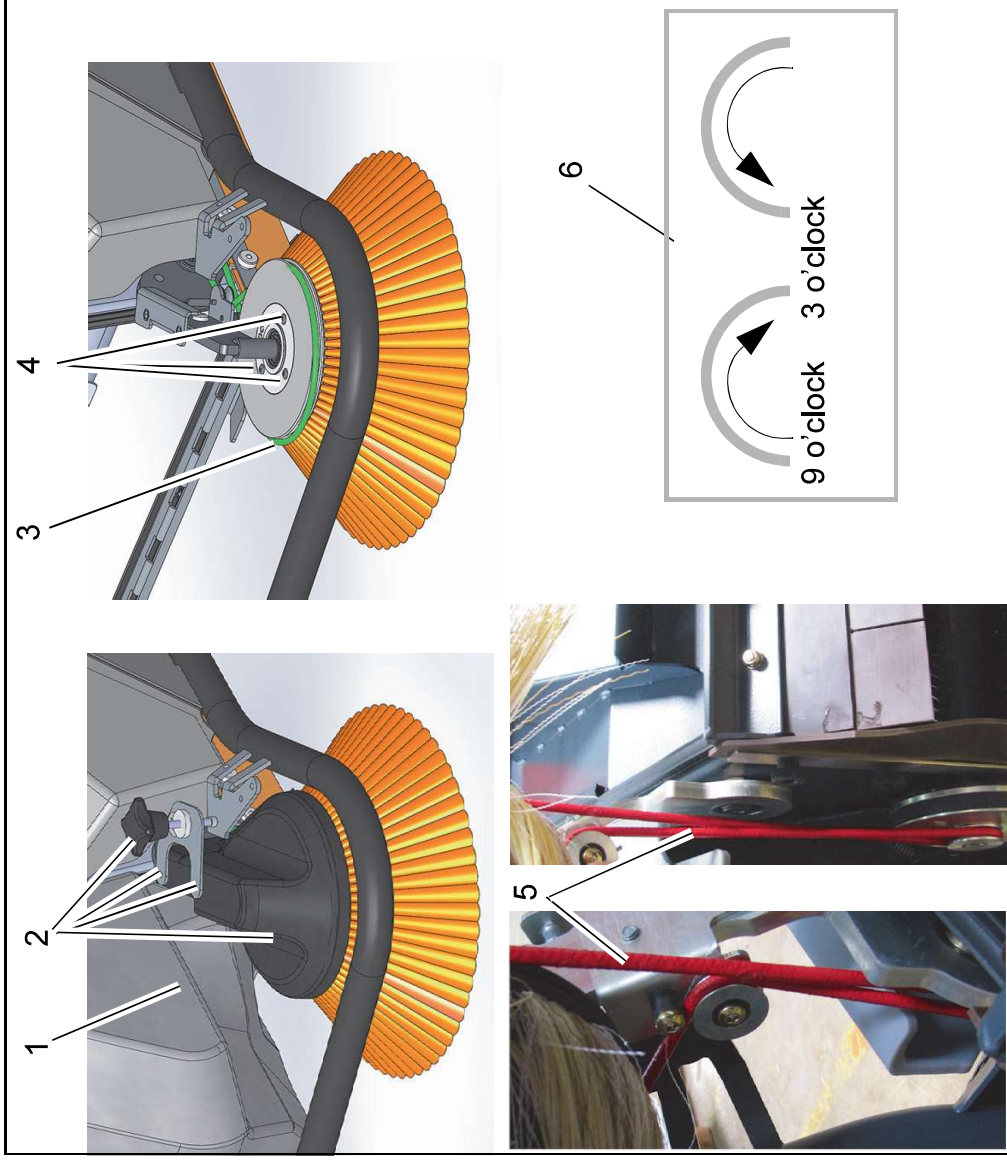

Fig. 10
1. Switch off the machine and remove the dirt hopper (Fig. 10/1).
2. Remove both M6x16 flanged button head bolts, the brush adjuster and the cover (Fig. 10/2).
3. Remove the round belt from the side brush (Fig. 10/3).
4. Loosen the 3 screws of the side brush (Fig. 10/4) and remove.
5. Fit the new side brush in the reverse order. Pay attention to the run of the belt (Fig. 10/5).
Compared to a clock, the sweeping level must be from approx. 9 o'clock to 3 o'clock on the floor (Fig. 10/6).